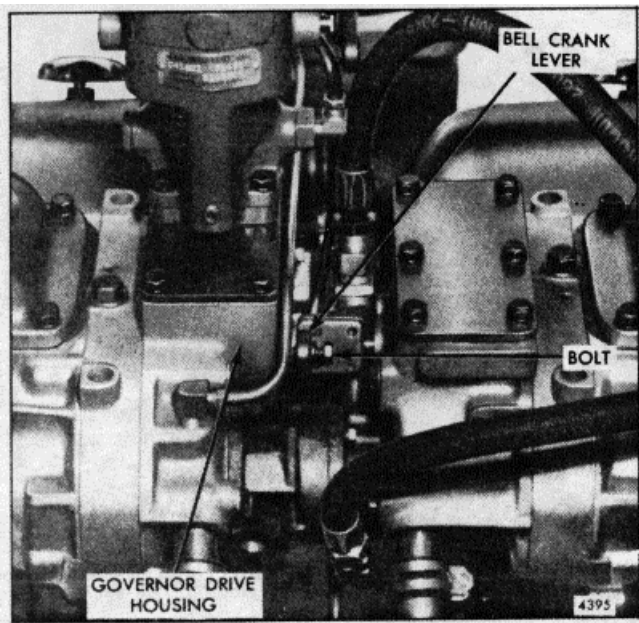

Fig. 13. - Positioning Bolt through Bell Crank Lever
5. Place the bolt (removed from the lower end of the vertical link) through the bell crank and into the recessed hole in the governor drive housing (Fig. 13).